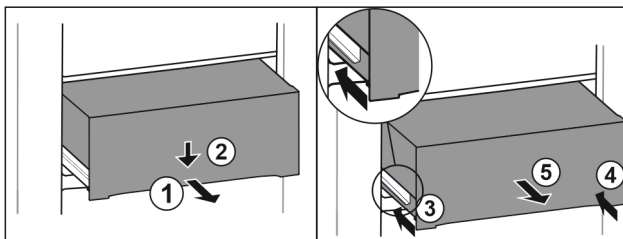

Fig. 70
- Pull out drawer half-way. Fig. 70 (1)
- Push the drawer down at the front. Fig. 70 (2)
- Push the left rail in by about 2 cm. Fig. 70 (3)
- Push the right rail in by about 2 cm. Fig. 70 (4)
- Remove drawer to the front. Fig. 70 (5)